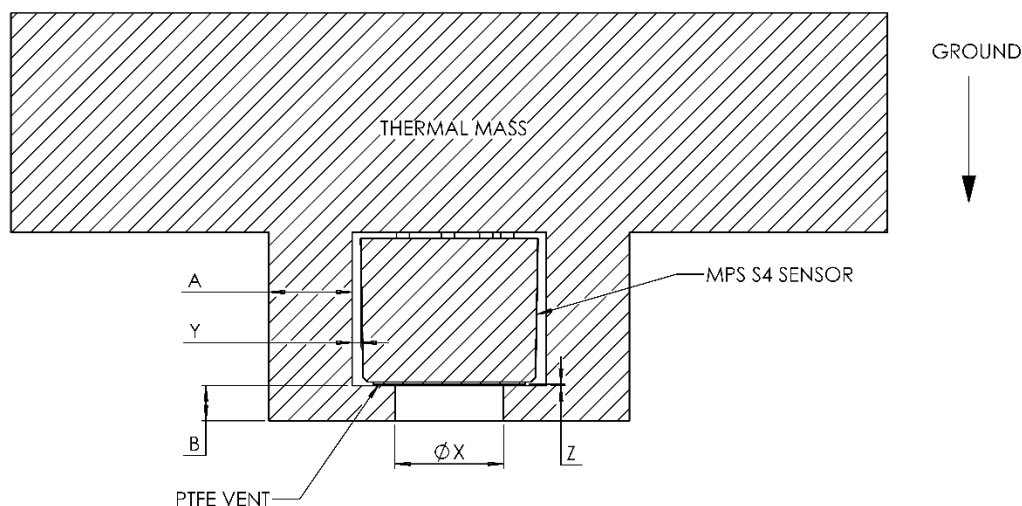

Figure 9: Reference enclosure design.
- The sensor should be installed so as to face downward inside a cylindrical enclosure with an air inlet facing the ground. The recommended general installation is shown in Figure 9. The inlet diameter, X , should be sized at approximately 14 mm, and the air gap, Z , should be less than 2 mm. Radial spacing, Y , between the sensor and the enclosure should be 1-3 mm. (Note the $\sim 1^\circ$ draft angle of the "Series 4" type MPS sensor package.) The wall thickness, A , should be 8-10 mm, and B should be approximately 4 mm.